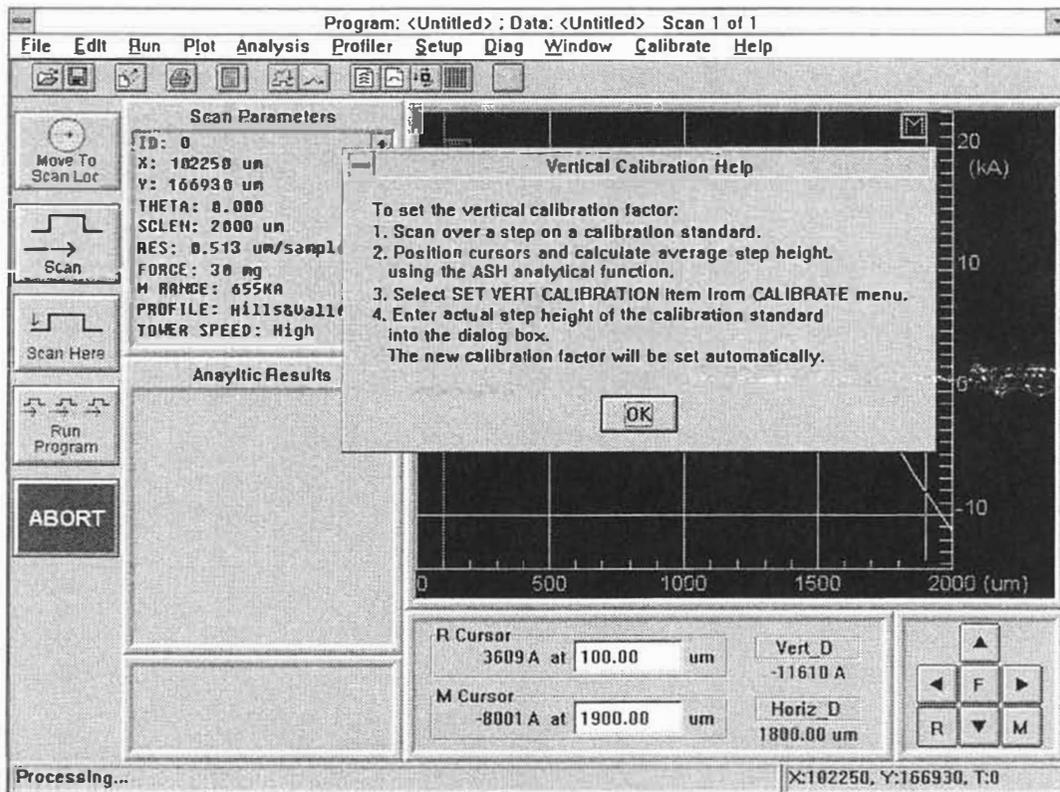

Figure 10-1. Vertical Calibration Help Window
2. Click-on "Vertical Calibration" and click-on "Set". The vertical calibration help window will be displayed (see Figure 10-1).